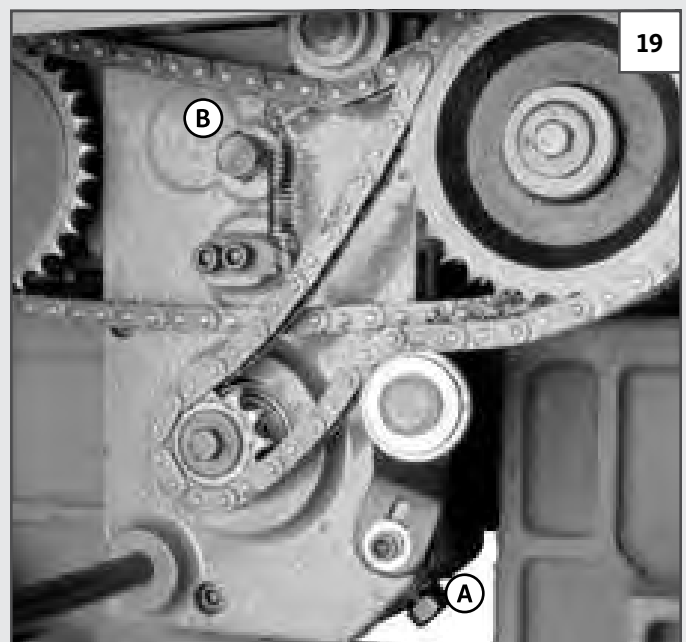

FIGURE 19: CHANGING THE GEAR OIL
2. Place a container under the **DRAIN PLUG (A)** and remove it using a 14 mm wrench. Once the gearbox is drained, reinstall the **DRAIN PLUG (A)**, and then remove the **FILL PLUG (B)** using a 14 mm open wrench. See Figure 19.
3. Fill the gearbox with a 80W-90 gear oil until it reaches the hole. Reinstall the **FILL PLUG (B)**, and replace the panel, handwheel and feed speed adjustment knob.